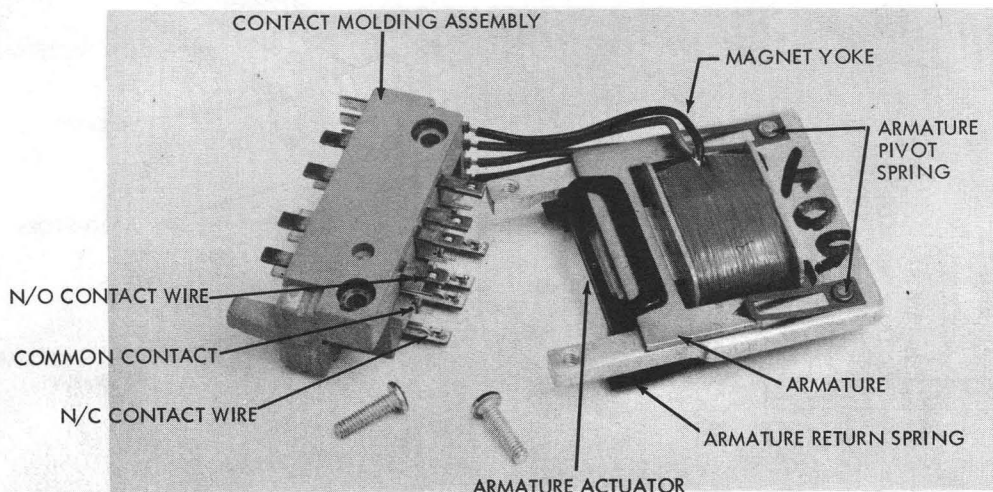

Figure 3-46. PM Relays
1. Remove the two relay yoke mounting screws and separate the contact molding assembly from the yoke assembly. This will expose the contact wires and common contacts. Use care to prevent breakage of coil wires from relay molding. Refer to Figure 3-46.